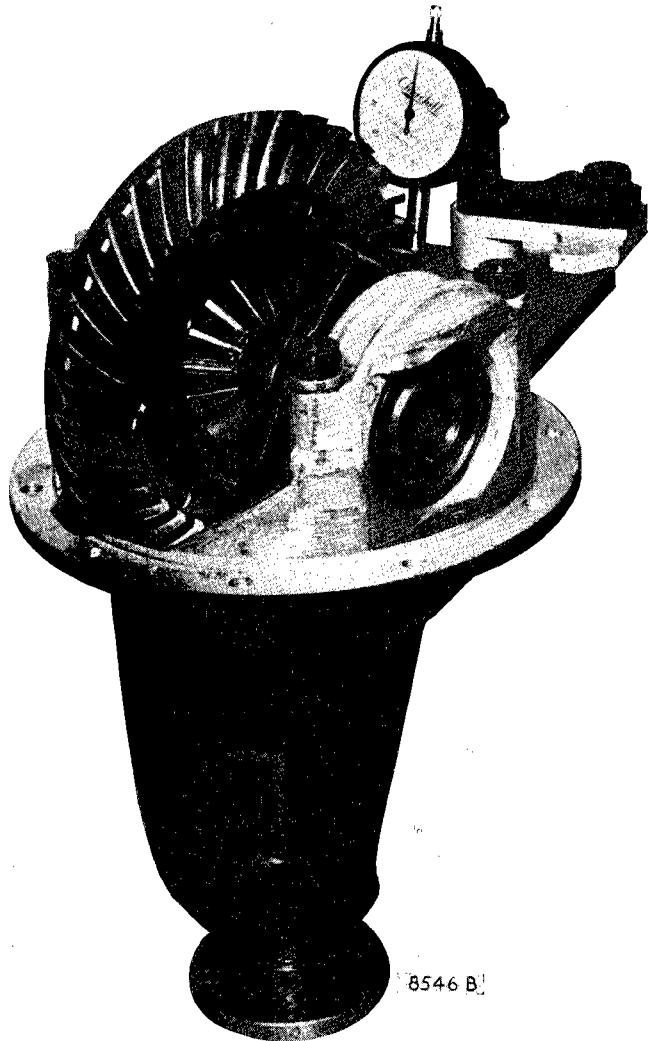

Fig. H.12
- (8) Assemble the bearings and shims as calculated to the differential cage and fit the differential to the gear carrier. Replace the bearing caps and tighten the nuts. Bolt the special tool surface plate to the gear carrier flange and mount the clock gauge on the magnet bracket in such a way that an accurate backlash figure may be obtained. (See Fig. H.12.) The minimum backlash allowed in any circumstances is .005 in. (.127 mm.) and the maximum is .007 in. (.178 mm.).